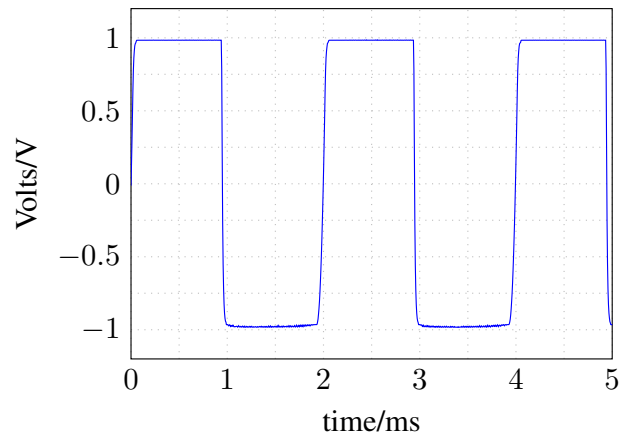

Fig. 45: Square wave observed on SQR, adjusted for a 1 V amplitude on TR10.
3. Adjust the amplitude of the square wave to 1 V on TR10 (Fig. 45).